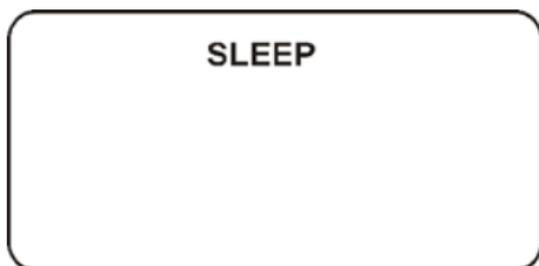

Figure 4 The Unit is Asleep
- You'll see the **SLEEP** indicator at the top of the screen (Figure 4)